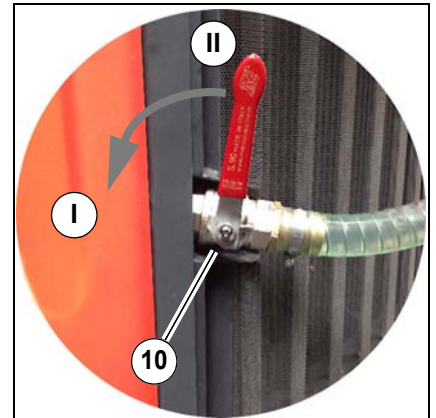

Fig. 103:
- Circulating water supply opened: Ball cock in position **Fig. 103-I**
- Circulating water supply closed: Ball cock in position **Fig. 103-II**